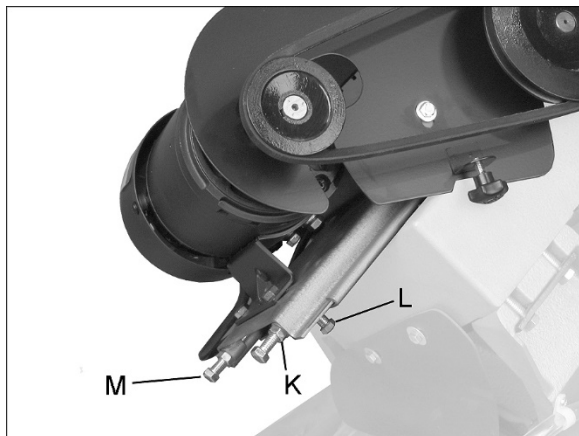

Figure 8-5: Belt Tension/Replacement
- Open pulley cover, and loosen hex nuts (K, Figure 8-5). Turn screw (L) out to relieve pressure on motor mount plate.
- Turn screws (M) clockwise to push motor mount plate, relieving tension on belt.